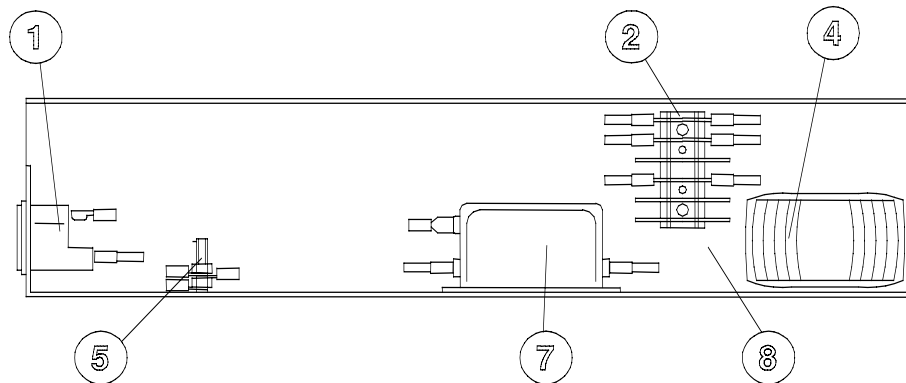

Fig. 24
| Fig. 24 - ④ | 86004803 | Toroidal transformer 230Volt | 1 |
| Fig. 24 - ⑦ | 86003248 | Line filter 230Volt | 1 |
| Fig. 24 - ① | 86000614 | Mains inlet and fuse holder | 1 |
| Fig. 24 - ④ | 39903078 | Toroidal transformer 120Volt | 1 |
| Fig. 24 - ⑦ | 86003256 | Line filter 120Volt | 1 |